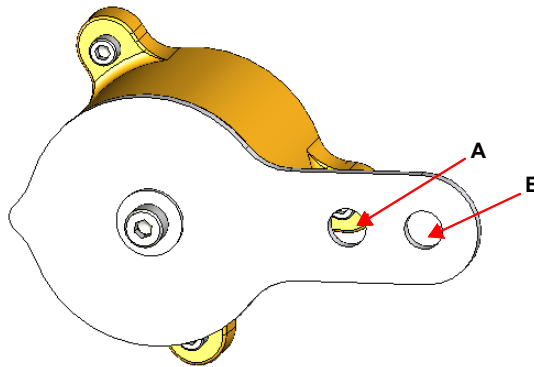

**Figure 20 - Ensure Position Linearity**
- Ensure the adjustable link turnbuckle is parallel to the valve stem. Verify that the hole in the lever aligns with the alignment hole in the bracket when the valve is in the closed position. Check that the bracket is mounted using the proper holes (Figure 20).